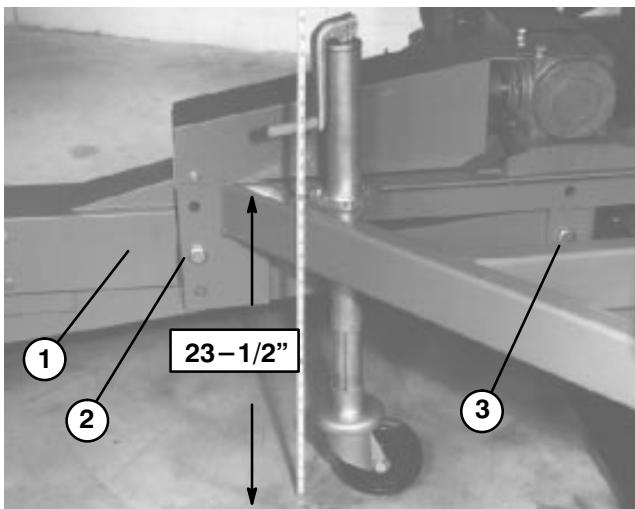

Figure 2
- A. Remove front and rear capscrews and locknuts securing hitch tongue to frame (Fig. 2).
- B. Raise or lower hitch tongue to position it approximately level with prime move hitch and secure with (2) capscrews and locknuts. The main frame should be parallel with the ground surface about 23-1/2" when attached to tractor.